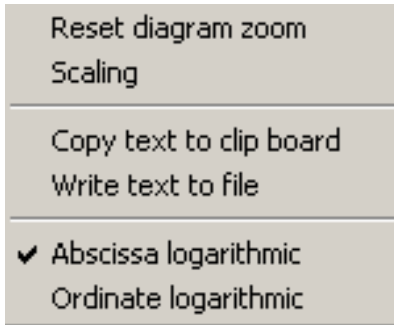

Fig. 4-122 Context menu of the Fit deviation diagram
- The context menu (see Fig. 4-122) is opened.